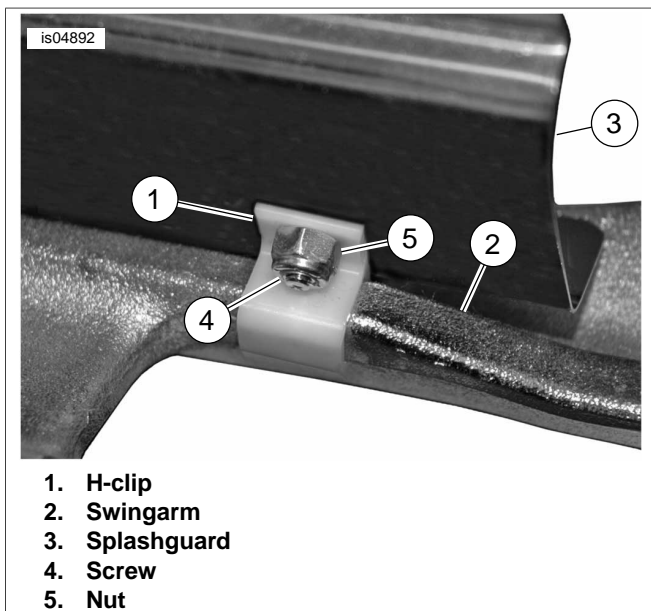

Figure 3. H-Clips Installed on Swingarm
8. See Figure 3. Turn H-clips (1) horizontal on the splashguard. Press splashguard (3) into place. When the splashguard is in place, rotate the H-clips down over the raise bar of the swingarm (2). Tighten the screw (4) and nut (5) to secure the H-clips.